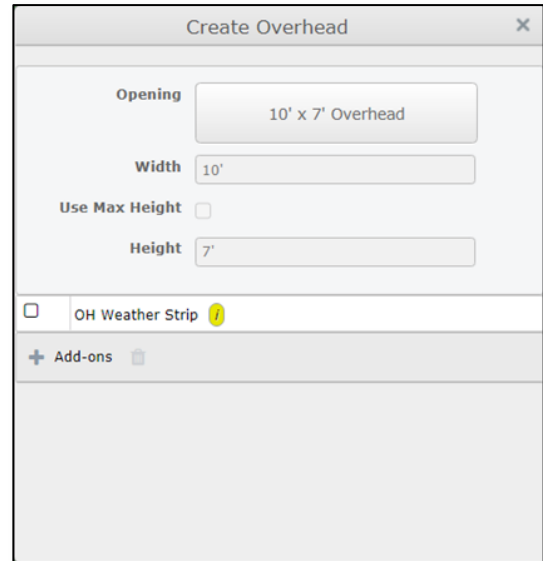

Figure 5: The *Create Overhead* dialog box.
2. On the *Openings and Building Additions* toolbar at the top of the page, click on the Overhead Door command button. The *Create Overhead* dialog box will open, as pictured in Figure 5 at right.